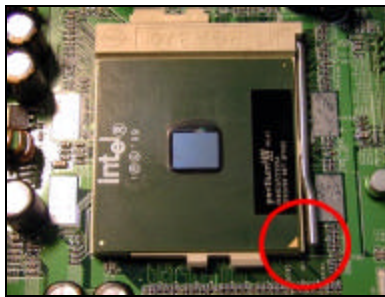

Figure 3.4.1
- ii. Place the CPU on the Zero Insertion Force socket, as shown in [Figure 3.4.1] below. It should slide into place without the use of force.
- iii. Pull down the socket lever and click it into its latch at the side of the socket, as shown in [Figure 3.4.1] above, to lock the CPU in position.